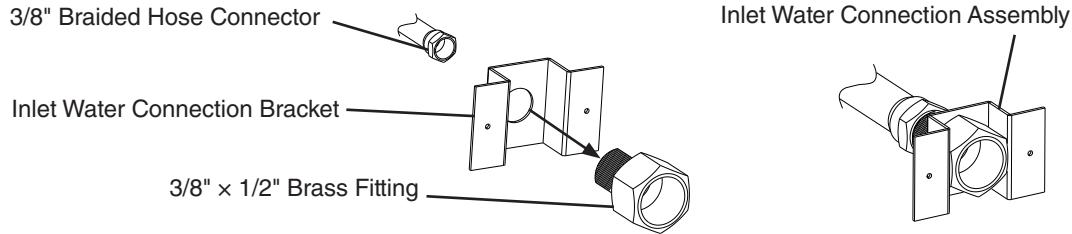

Fig. 7
- 14) Locate the 3/8" x 1/2" brass fitting provided in this kit. Place the inlet water connection bracket on the 3/8" male side of the brass fitting as shown in Fig. 7. Then, inside the dispenser area, attach and tighten the open 3/8" braided hose connector to the 3/8" male brass fitting.